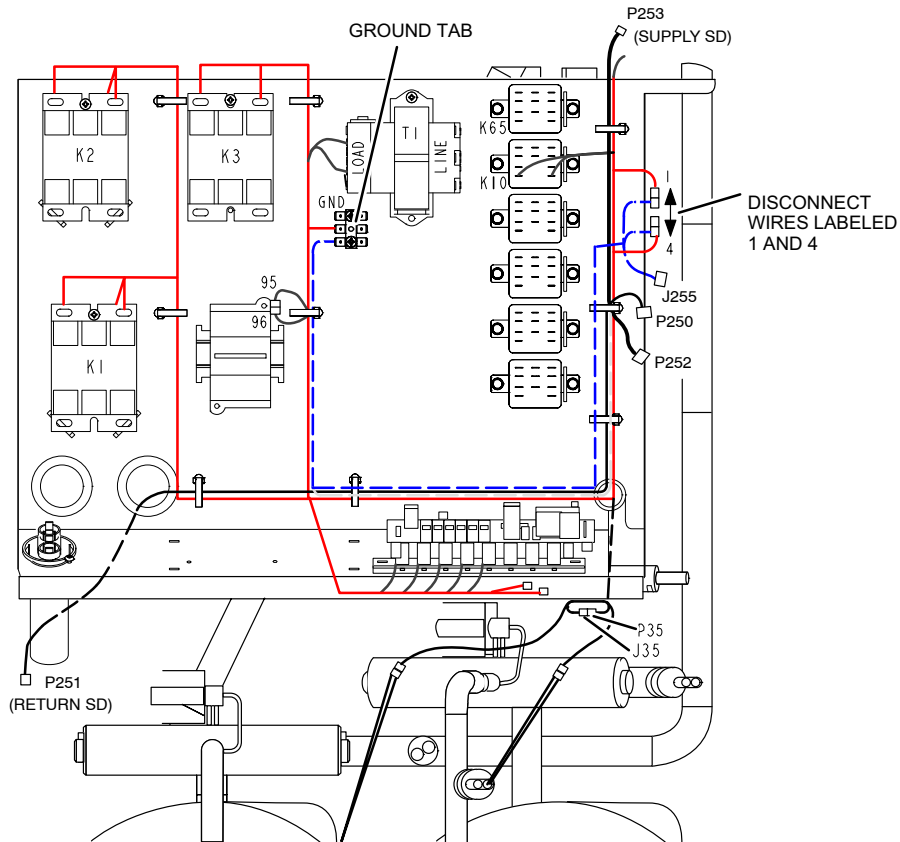

FIGURE 3
- 2 - Locate and disconnect wires labeled 1 and 4 in control area. See figure 3.
- 3 - Connect wires labeled 1, 4 and GND from kit harness to wires labeled 1 and 4 and ground tab in unit. Position J255 plug near P250 and P252 plugs. See Figure 3.